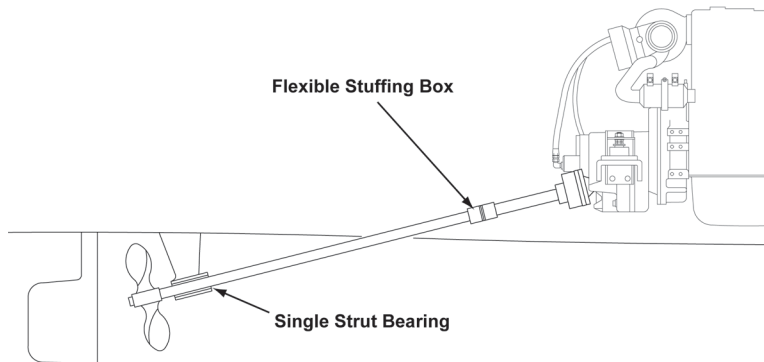

Figure 5-6: Propeller Shaft for a Flexibly Mounted Engine
On a solid mounted engine, temporary alignment is made with jacking screws (if available in the engine supports) or with temporary jacks and lifts (see Figure 5-6). Chocking compound or shims are made to fit exactly between
A flexibly mounted engine "moves" on the engine mounts. Therefore, the propeller shaft connected to the marine gear output flange must be free to move with the engine. As illustrated in Figure 5-6, most recreational boat installations use a flexible stuffing box (1) and a single strut bearing (2) to support the propeller shafting while allowing for freedom of movement in the shafting.